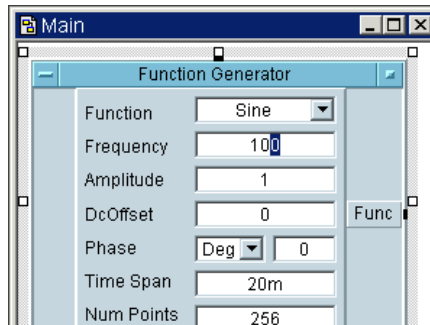

Figure 28 Highlighting a Frequency Field Number
- 7 Click the Frequency field to the right of the value **100**, and, while holding the mouse button down, move the mouse to the left to highlight the last **0**, as shown in Figure 28.